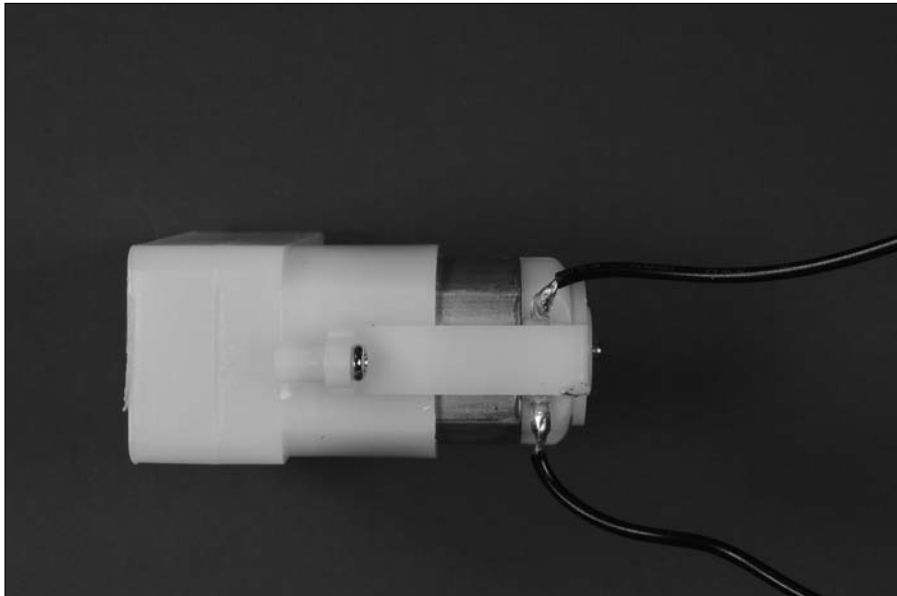

Figure 13-28:
1. Solder 12" stranded wires to the motor lugs, as shown in Figure 13-28.